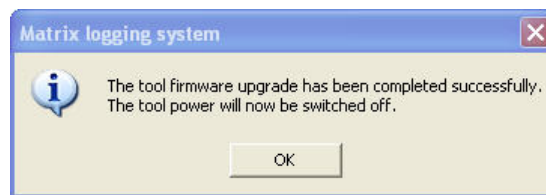

Figure 6-6 Successful upgrade
- Once the upgrade has been successfully completed (Figure 6-6), click on **OK** to turn the tool off.